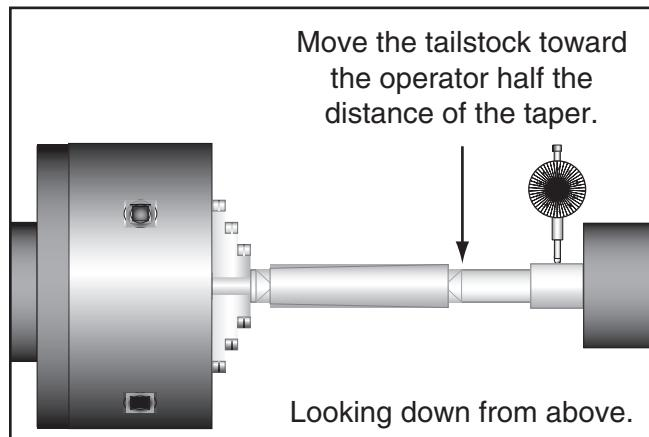

Figure 31. Adjust tailstock toward the operator.
- If the machined workpiece is *thicker* at the tailstock end, move the tailstock *toward* the operator $\frac{1}{2}$ the distance of the amount of taper (see **Figure 31**).